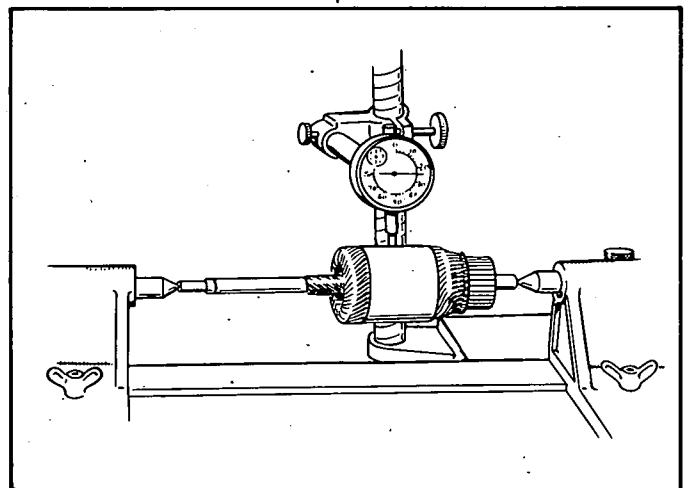

FIGURE 37. CHECKING ARMATURE SHAFT RUNOUT
5. **Testing Armature Shaft Runout.** The armature shaft as well as the commutator may be checked. A bent armature often may be straightened, but if the shaft is worn, a new armature is required (Figure 37).